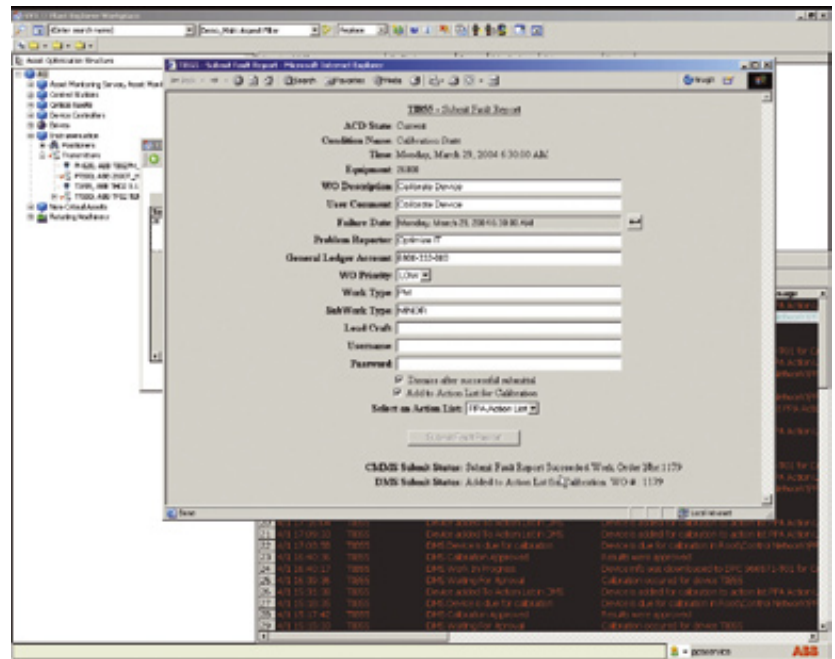

Figure 2. Submit Fault Report to CMMS/DMS
5. When the Fault Report is submitted, a Work Order is automatically created in the CMMS. The CMMS Work Order number will also be available in the DMS (Figure 2).